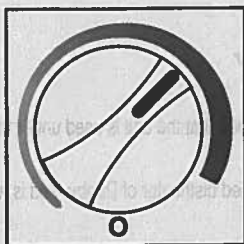

Fig.15
- When maximum cooling is achieved, turn back the temperature control knob setting to the 2 o'clock position on the graduated blue control dial. See Fig.15.